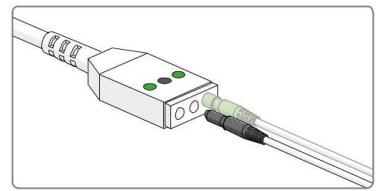

Figure 20. Connect the disperser electrode to the master cable
5. Connect the disperser electrode to the master cable: insert the black plug of the disperser cable into the master cable socket marked with a black dot, see Figure 20.